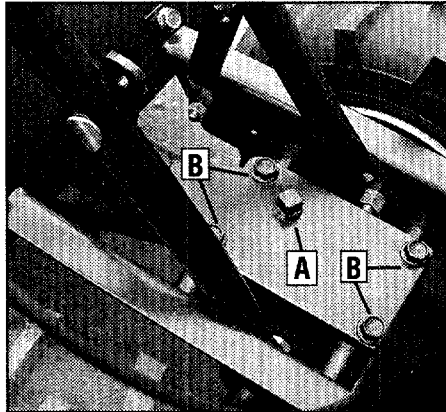

Figure 5-2: Remove oil fill plug (A) to check gear oil level and to add gear oil. Remove four cover screws (B) to drain gear oil.
3. Remove the oil fill plug (A, Fig. 5-2) from the transmission housing and locate the main drive shaft situated inside the housing.
3. Remove four screws (B, Figure 5-2) and remove transmission cover and gasket.